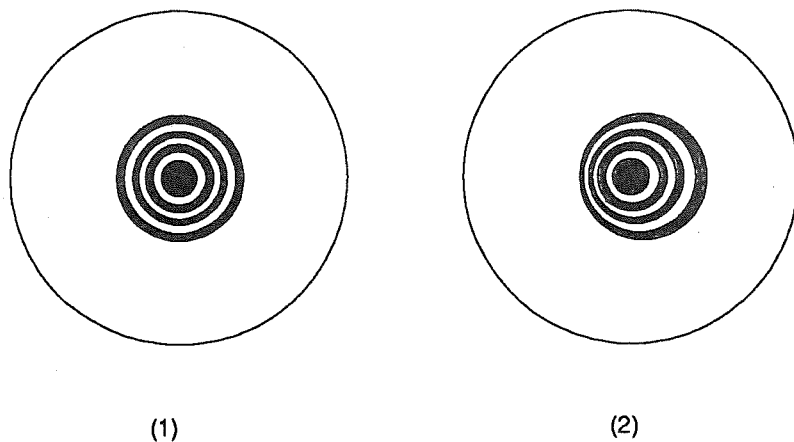

Fig. 4
5. Bring the star's image slowly in and out of focus until you see several disks surrounding the star's center. If step 4 was done correctly, you will see concentric (centered with respect to each other) circles (#1, Fig. 4). An
improperly collimated instrument will reveal oblong or elongated circles (#2, Fig. 4). Adjust the 6 push-pull collimation screws on the primary mirror housing until the circles are concentric on either side of focus.